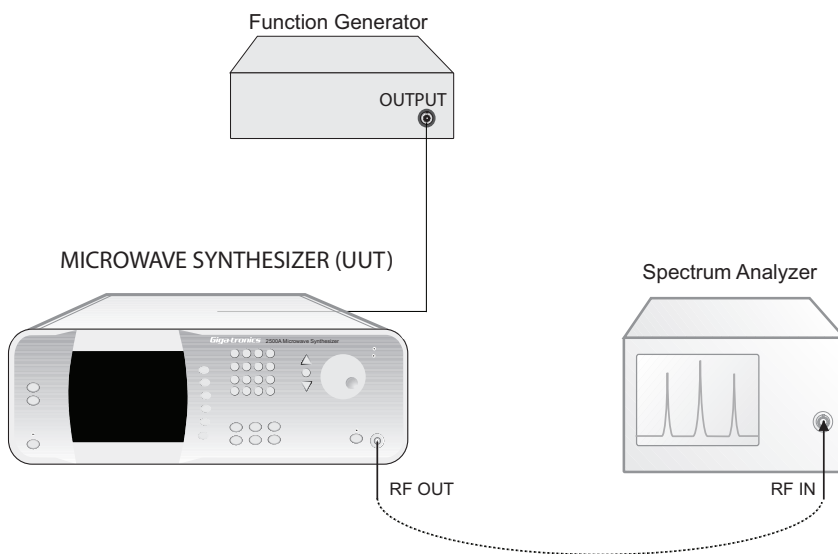

Figure 4-5: Amplitude Modulation Accuracy and Amplitude Modulation Bandwidth Tests
4. Connect the test equipment and UUT as shown in Figure 4-5, connecting the UUT directly to the RF input of the Spectrum Analyzer. Connect the Function Generator output to the AM IN BNC.
3. Connect the test equipment and UUT as shown in Figure 4-5,